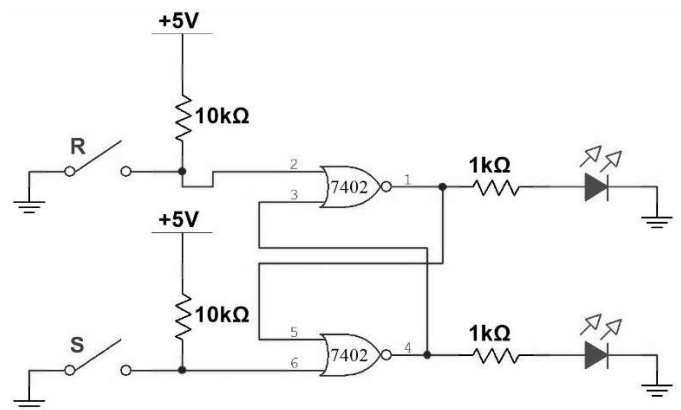

Figure 3.13. Experimental RS Latch
- Connect the NOR latch of figure 3.13!